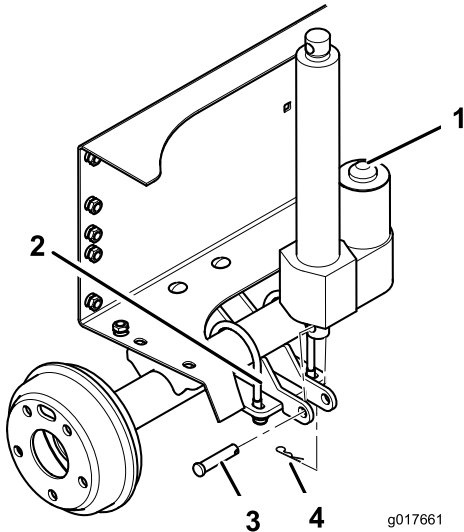

Figure 6
6. Mount the bottom end of the lift actuator to the lift cylinder support with a clevis pin and hair pin cotter. Position the components as shown in Figure 6.